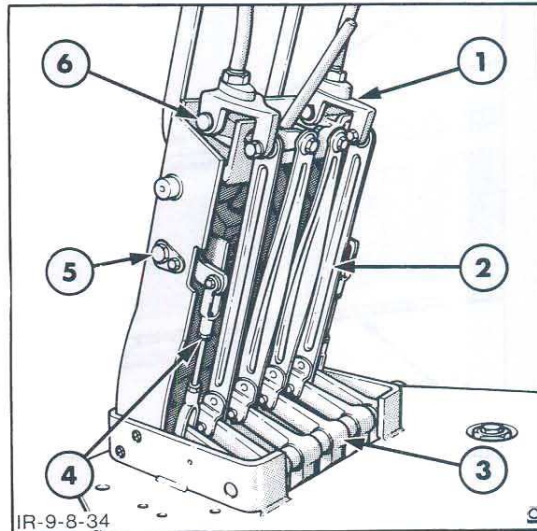

Figure 39
1. Remove the control lever and stabiliser lever link assemblies by disconnecting the pivot pins and removing the lever pivot to link bolts, Figure 39.